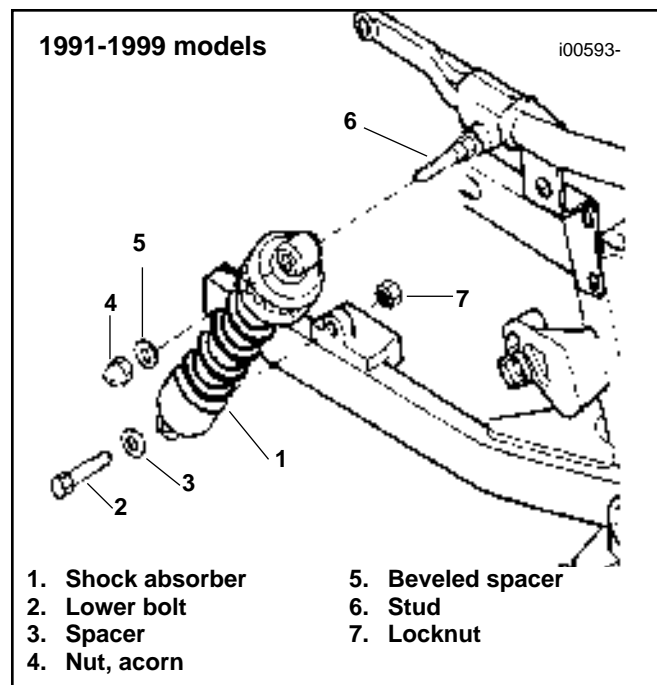

Figure 1. Rear Shock Absorber Installation
1. See Figure 1 (1991 to 1999 models). Place shock absorber (1) upper end bushing on upper mounting stud (6).
2. Position bottom end bushing of shock absorber (1) against outboard side of rear fork mount. Place spacer (3) on lower bolt (2). Insert lower bolt (2) through shock absorber bottom bushing and rear fork mount. Apply 2-3 drops of Loctite® Threadlocker 242 (blue) to threads of bottom bolt (2). Place locknut (7) on bolt (2). Tighten locknut (7) to 30-50 ft-lbs (41-68 Nm).
3. Place beveled spacer (5) from kit on upper mounting stud (6), beveled side out. Apply 2-3 drops of Loctite® Threadlocker 242 (blue) to threads of stud (6). Place acorn nut (4) on stud (6) and tighten acorn nut (4) to 21-35 ft-lbs (28-47 Nm).